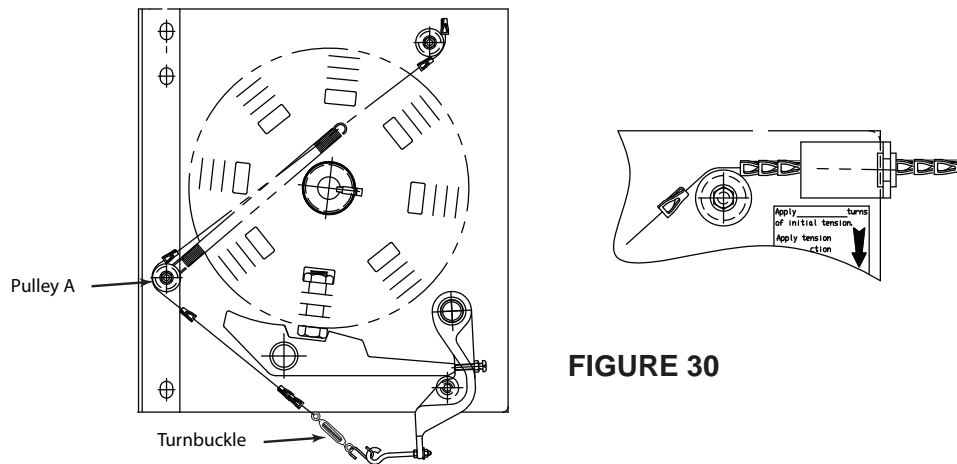

FIGURE 30
- See Figure 30 for release assembly installation on tension headplate. Attach S-hooks to both ends of the 9" spring with one S-hook over the base of the screw on Pulley A in Figure 30. Stretch spring and S-hook about 3" and attach S-hook into the sash chain as shown.
- Use two winding bars to return the 3/4" bolt to proper position against the horizontal release arm as shown in Figure 30 and Figure D.